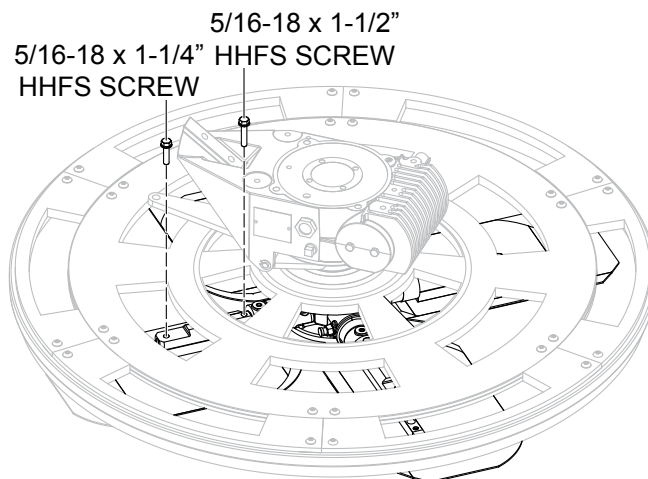

**Figure 40. 36" Guard-Bumper Ring Installation**
3. Retain M8-1.25 x 25 BHC screws (6) and M8-1.25 nyloc nuts (12). Locate the M8-1.25 x 25 BHC (6) screws retained from the 36" edger configuration to the 30" edger configuration.
- Using either a 5mm hex wrench, secure the 36" guard-bumper ring assembly to the 30" guard ring base (Figure 40) using M8-1.25 x 25 BHC screws (12) and M8-1.25 nyloc nuts (12).